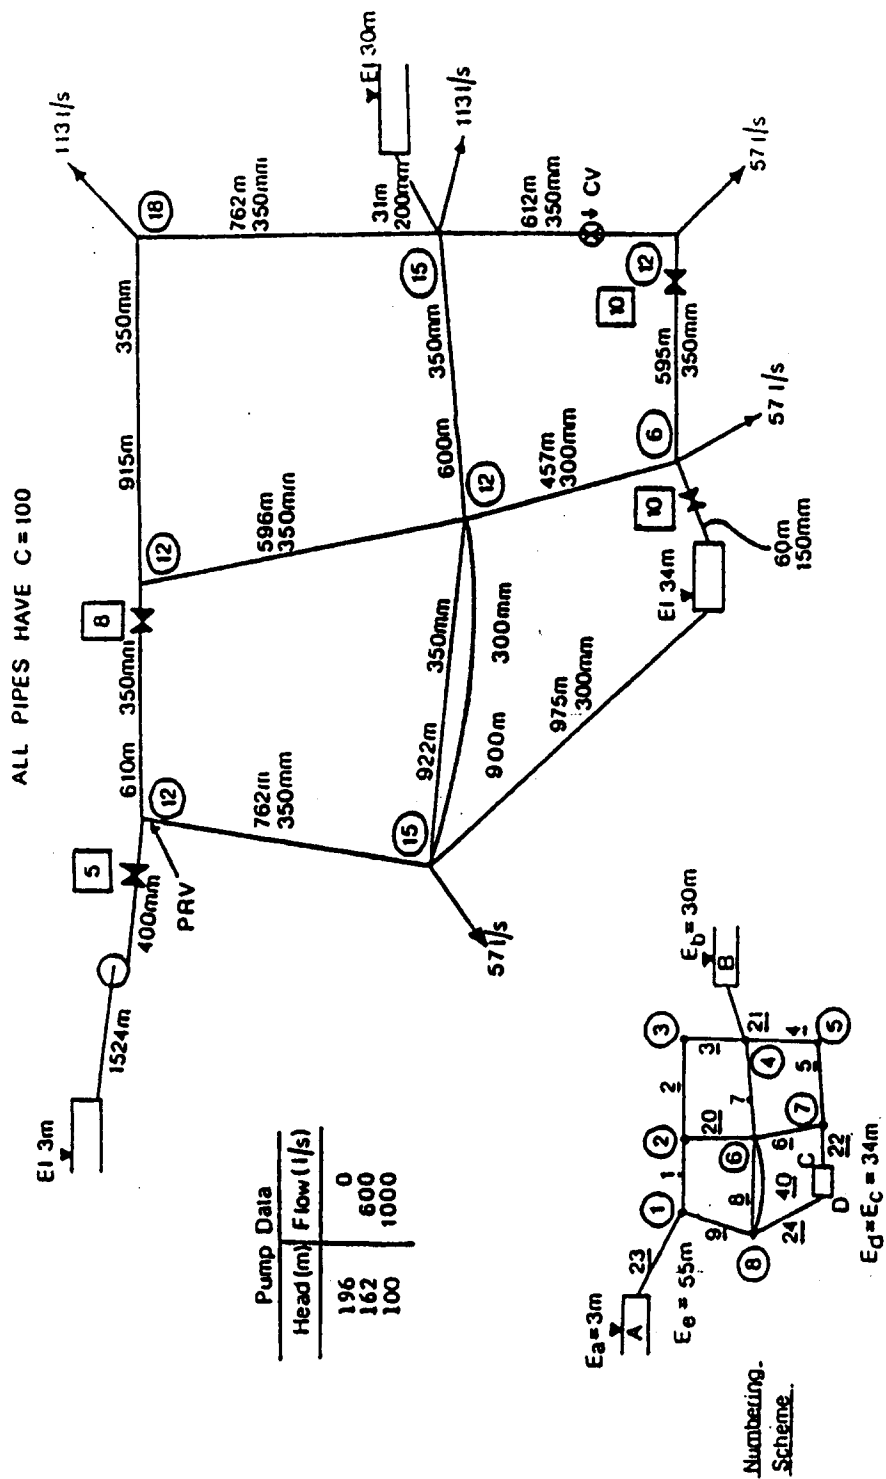

Figure 11 Example - Fifteen Pipe System
This is a fifteen pipe, pump-fed system with several storage reservoirs, as shown in the diagram Fig. 11. The pipe lengths, diameters, minor loss coefficients, junction demands and elevations and FGN elevations are noted on the schematic. Among the features that are demonstrated with this example are:
1) a non-consecutive numbering scheme is used for the pipes (and junctions) i.e. the fifteen pipes are numbered 1-9, 20-24, 40. A schematic denoting the numbering scheme is also shown in Fig 11. SI units are employed.
2) two pipes (22 and 24 in this example) are fed from a common source. There are, in effect, two separate fixed grade node connections required. Thus, the model requires a total of four FGN reservoir connections in this case, not three. This also means that there are just four primary loops (including the parallel pipe loop). Note  $p=15$ ,  $j=8$ ,  $\ell=4$ , and  $f=4$  which satisfies Equation (1)
3) the pump is described by three sets of head-flow data points taken from the pump operating curve. The data is shown on Fig. 11.
4) hydraulic components including a check valve (CV), pressure regulating valve (PRV) and a parallel line are featured in this example. The check valve prevents flow reversal in line 4. The PRV limits the pressure head at the upstream end of line 9 (adjacent to node 1) to 43m. by setting the HGL at the upstream end of line 9 to 55m. (elevation=12m).